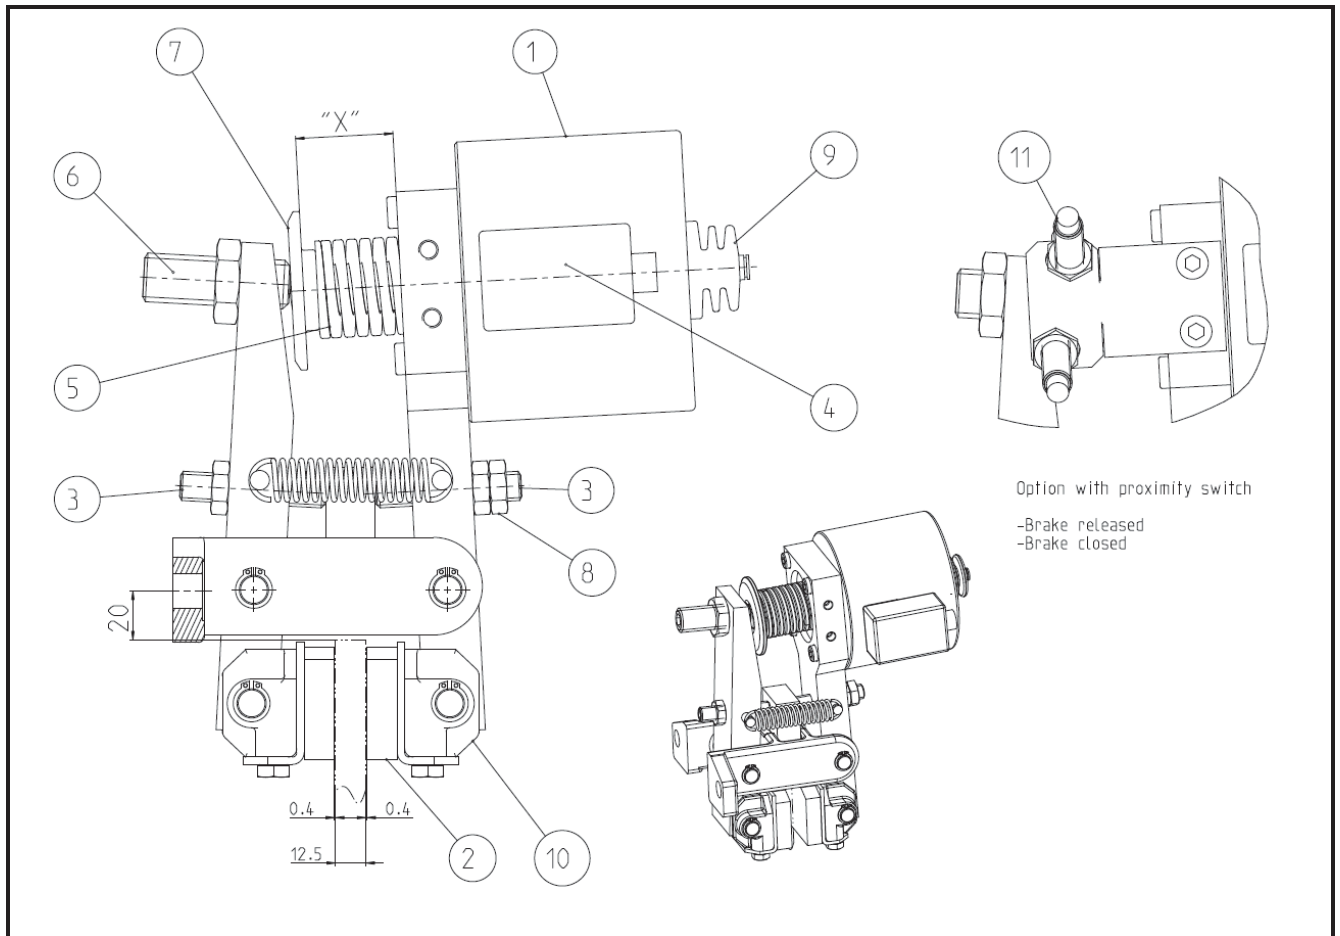

Fig. 3.1
- Brake pads to brake lever (10)
When the brake calliper closed, measure the distance between spring control (7) (see fig. 3.1) and brake lever.
When brake pads are worn, in the closed condition of the brake calipers tension in the spring is reduced increases and the distance `X` between spring control and brake lever (see fig. 3.1) becomes larger. This reduces braking force. At a protrusion distance of 45 mm, at the latest, braking force must be readjusted as described in Section!